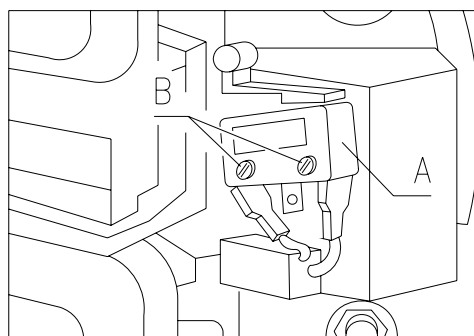

FIG. 17
8.8 REPLACING THE DELIVERY DOOR OPERATING BELT (FIG. 17)
8.9 REPLACING THE DELIVERY DOOR MICROSWITCHES FIG. 17